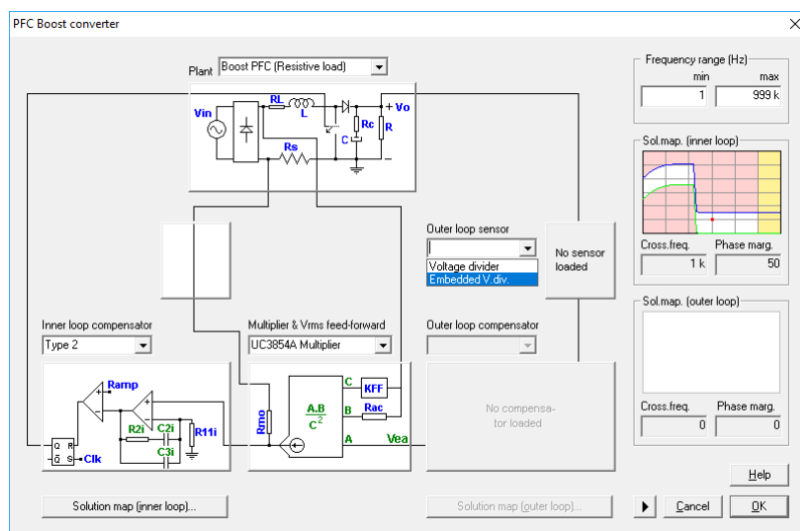

Figure 14: Outer loop sensor choice
1. Select the voltage sensor. In this particular example, the option which has been chosen is “Regulator embedded voltage divider”. See Figure 14.